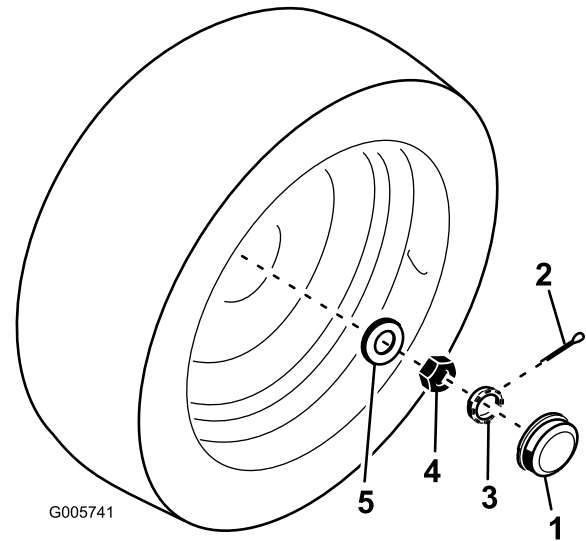

Figure 55
- Remove dust cap from end of wheel spindle. Also remove cotter pin securing retainer (Figure 55).
- Tighten the jam nut (Figure 55) to approximately 75–100 in–lbs using a hand wrench.